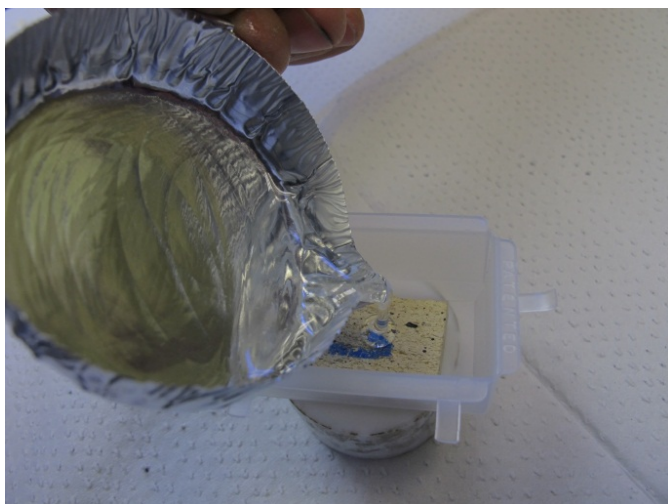

Figure 10
5. Cover the billet with resin (Fig. 10).